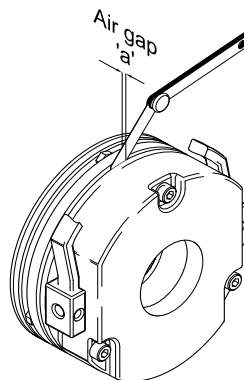

Figure 34 – Checking Hoist Brake Air Gap
The air gap 'a' (between the stator (5) and the armature plate (1)) should be checked in at least three positions around the circumference of the brake using non-magnetic feeler gauges (Figure 34). The air gap should not exceed the maximum air gap figure given in the above table.